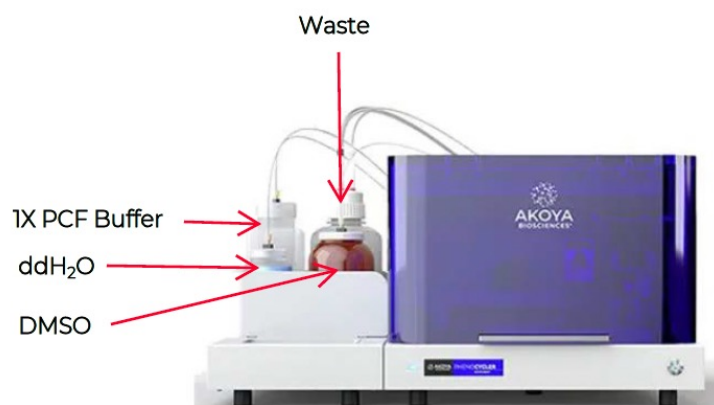

Figure 6.1. Sidecar containing buffers.
- To fill the buffer bottle in the PhenoCycler sidecar. (See Figure 6.1.)